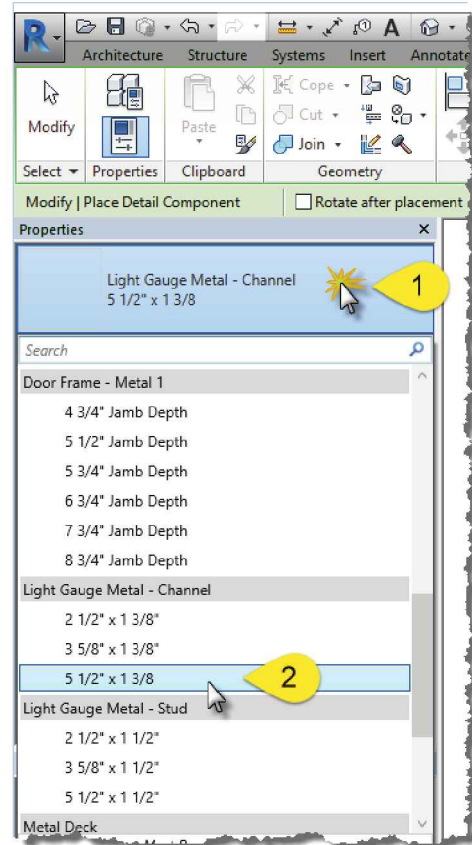

FIGURE 10-4.8 Detail Components
20. From the *Type Selector* pick *Light Gauge Metal - Channel: 5 1/2" x 1 3/8* (Figure 10-4.8).